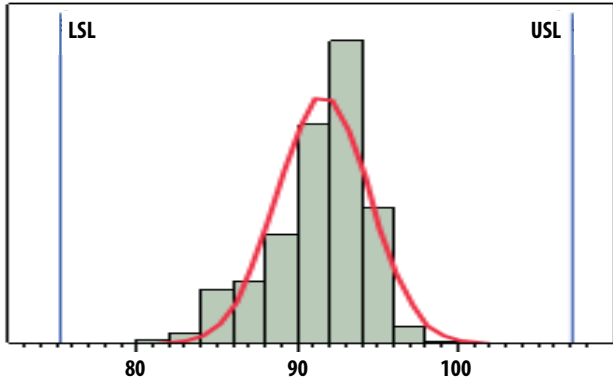

Figure 1. Idd, LSL = 75 mA, nominal = 92 mA, USL = 107 mA
RF performance at $T_A = 25^\circ\text{C}$, $V_{dd} = 5\text{ V}$, 849 MHz, measured on demo board in Figure 1 with component listed in Table 1 for DC bypass.
1. Measurements at 849 MHz obtained using demo board described in Figure 1.